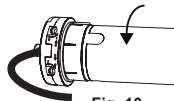

Fig. 10
- A. A left-handed installation. I look into the box and the limit switch of the motor is on the left (see Fig. 10)